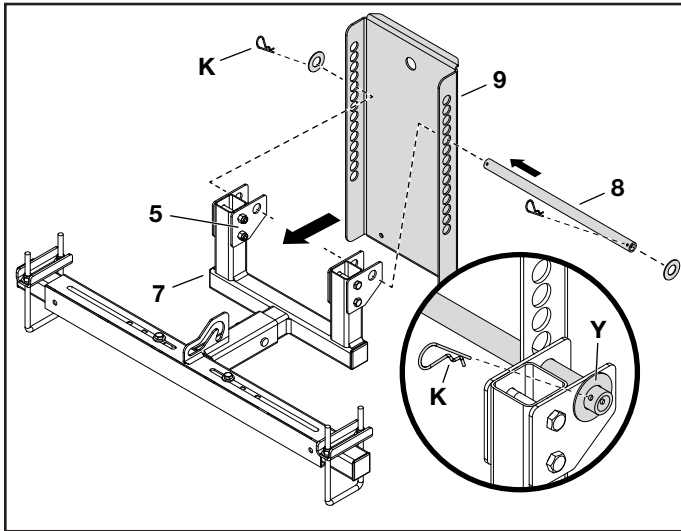

FIGURE 5
STEP 5: (SEE FIGURE 5)
- Insert the pivot shaft (8) through the two sets of pivot brackets (5) of the blade mount assembly (7) and the holes in the bulkhead (9).